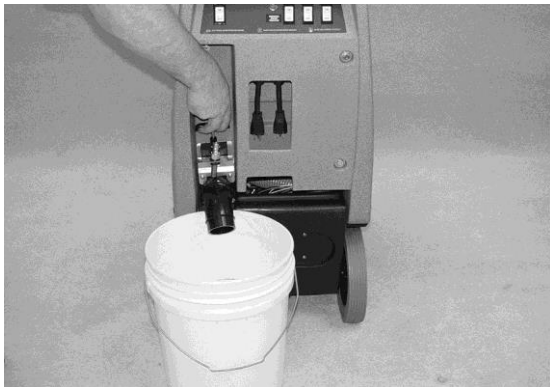

Fig. 9
2. Insert supplied 45° elbow in drain valve. Place a bucket below it and slowly pull up on the handle (Figure 9).